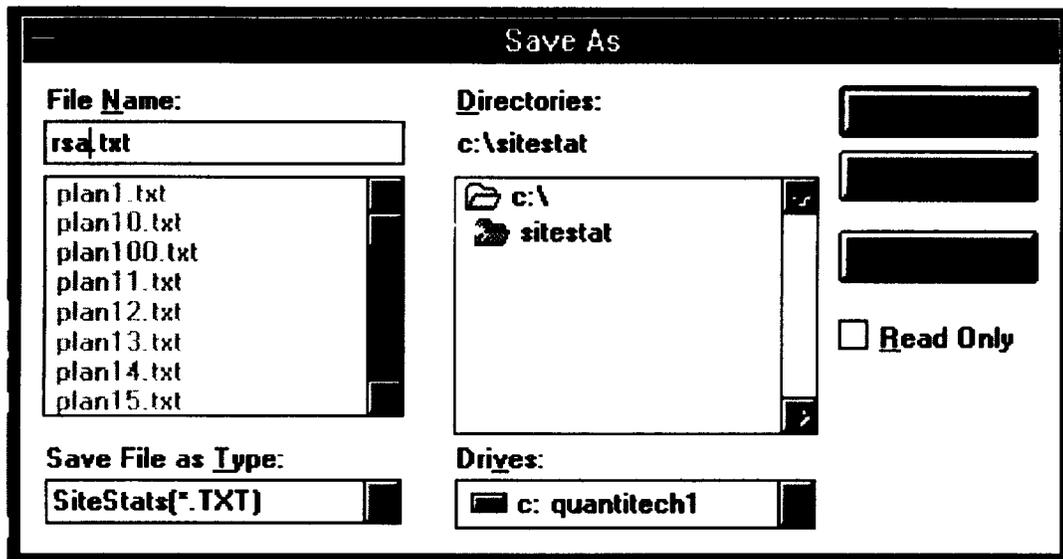

Figure 3.4-1. Saving Files
- \* Use the **Save As** command to save your data for the first time and give it a name, see Figure 3.4-1.